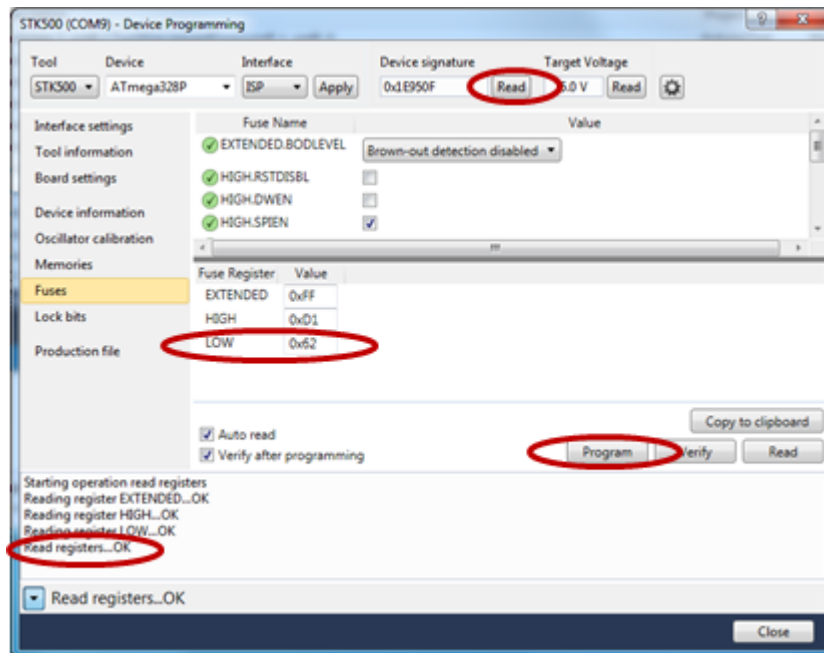

Figure A1 Device programming page
- Select *Tools* and select *Device Programming* which opens a page like Figure A1.